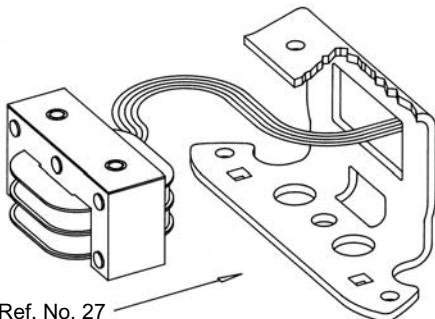

Figure 9
4. Replace shock mount and magnet, feeding coil wires through hole in back of bracket (Ref. No. 27) (See Figure 9). Use Loctite on screws (Ref. No. 29). Replace screws and clamps (Ref. No. 30). Tighten mounting screws with 55 to 60 in. lbs. torque.